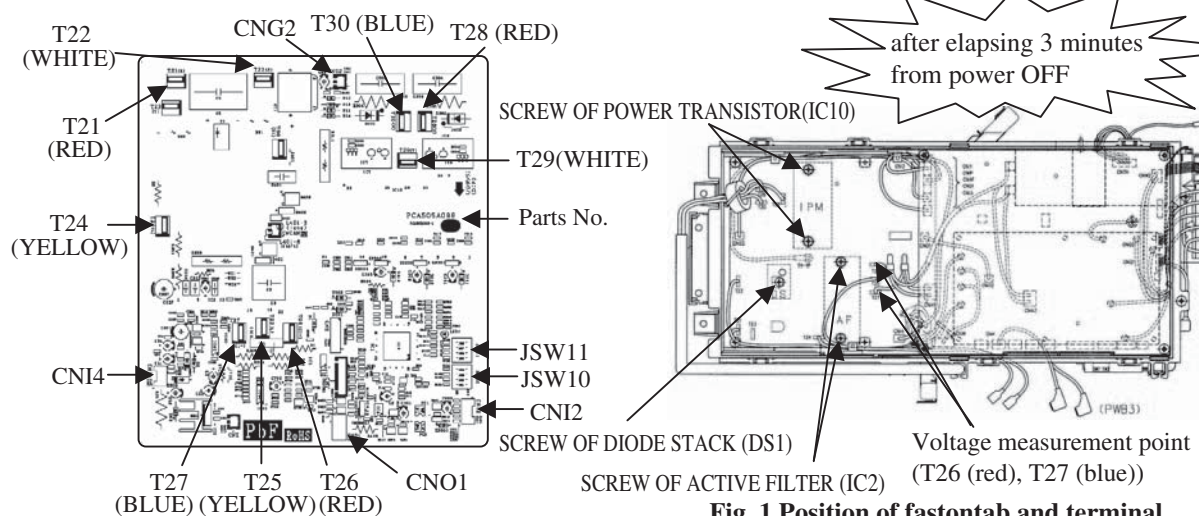

Fig. 1 Position of fastontab and terminal
(**Be sure to measure voltage (DC)** on both capacitor terminals located in controller back and **check that the voltage is discharged sufficiently.** (Refer to Fig. 1))